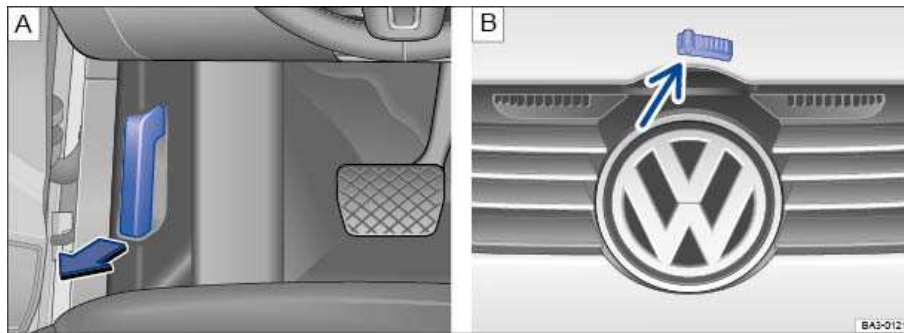

Fig. 178 A: In the footwell on the driver side: Inside engine hood release lever. B: Above the radiator grille: Outside engine hood release (under the hood).
- Open the driver door and pull the inside hood release lever in the direction of the arrow ⇒ fig. 178 \(A\).